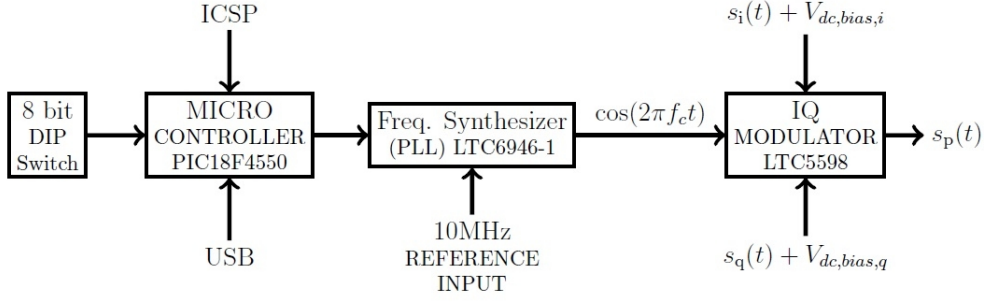

Figure 3: The block diagram of the IQ modulator board.
The block diagram of the IQ modulator board is shown in Fig. 3. It consists of several components, among which, the following ones are worth mentioning:
- (a) **The IQ Modulator IC:** In these experiments, the role of this IC is to upconvert the analog baseband I and Q signals to the RF carrier frequency. The local oscillator (LO) signal going to the IQ modulator, i.e. the carrier frequency signal here, is generated by an on-board frequency synthesizer (i.e. a phase locked loop). Internally in the IQ modulator IC, a poly-phase filter uses the LO signal to generate its  $0^\circ$  and  $90^\circ$  phases. These two phases are multiplied by the analog baseband I and Q signals (which are provided by an external source), respectively, and the resulting signals are combined to obtain the desired passband signal  $s_p(t)$  at the output port, as shown in Fig. 3.